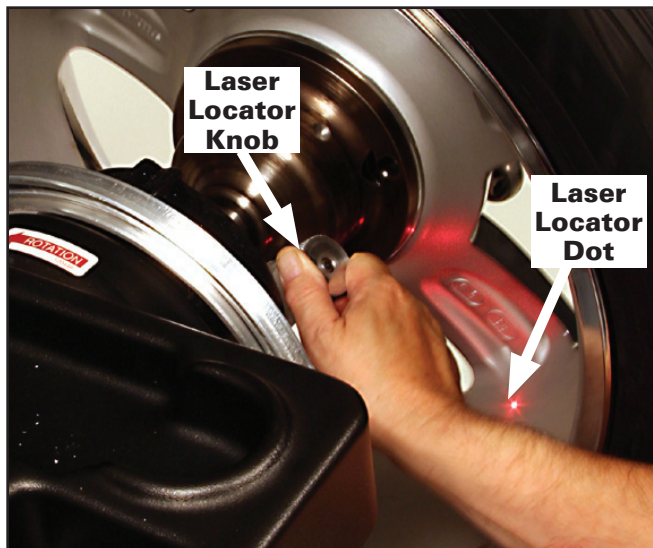

Figure 8 - Positioning Laser Dot At T2 - Tape Hidden Weight Location (A2)
If the T2 - Tape (hidden Tape-A-Weight®) location is selected, use the laser locator to point to the hidden weight location (figures 8 & 7B). Rotate laser locator knob to position the laser dot outboard at the desired T2-Tape (hidden Tape-A-Weight®) location.
If the T2 - Tape (hidden Tape-A-Weight®) location is selected, use the line laser to align the offset arm with the laser locator dot (figures 8 & 7B); entering A2 & D2 measurements automatically. Grasp arm at the line laser and pull out and up to the wheel flange (figure 6B). Hold arm still at the clip-on weight location and wait for BEEP. Then, before returning arm to home position, press button on line laser to activate the line laser beam. Move arm to inner area of wheel and align line laser beam with laser locator dot (figure 8). Hold arm still, up against the rim, in the same plane as the T2-Tape (hidden Tape-A-Weight®) location (figure 7A & 7B) and wait for BEEP. Refer to figure 9.
3. Rotate the laser locator knob to position the laser locator dot at the desired weight location. See figures 8 & 7B.